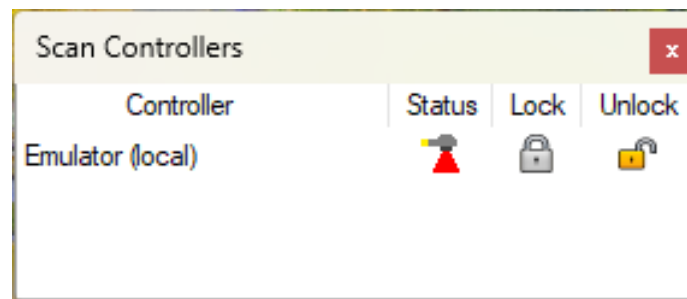

Figure 322: Emulator Listing in Scan Controllers Window
2. Lock the Emulator in the Scan Controllers list. See Figure 322 (below).